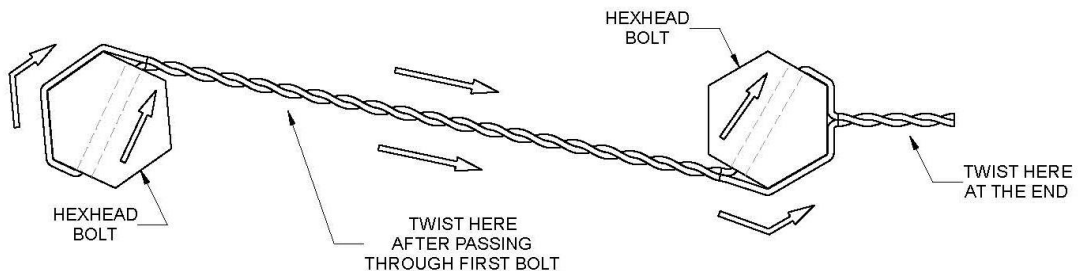

Figure 2
- ▶ Tighten all insert retainer screws. Then tighten the riser setting plate bolts leaving approximately 1/16 inch play between the riser slip setting ring and its corresponding insert retainer plate as provided by the bushing. (Important: all setting plate bolts and insert retainer screws retaining the slip setting ring and insert retainers must be secured with safety wire to keep them from backing out. Stainless Steel 3/32” safety wire is (recommended). **(See Figure 2)**)